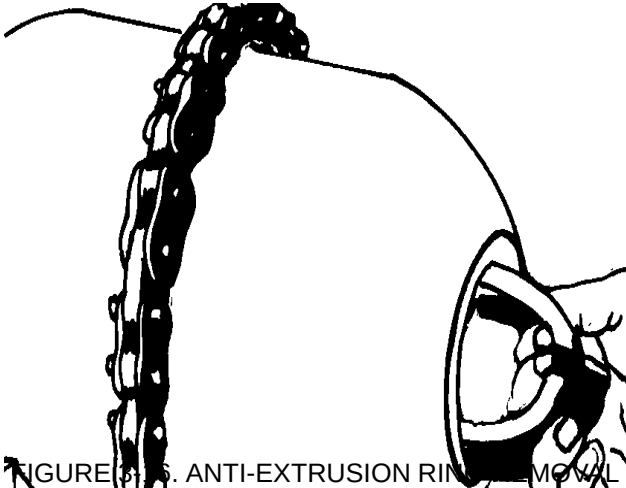

FIGURE 3-16. ANTI-EXTRUSION RING REMOVAL
5. Insert a hand into the accumulator shell and remove O-ring backup (5), O-ring (6) and metal backup washer (7).
6. Separate anti-extrusion ring (8) from the hydraulic port.
7. Fold the anti-extrusion ring and remove it from the shell as shown in Figure 3-16.